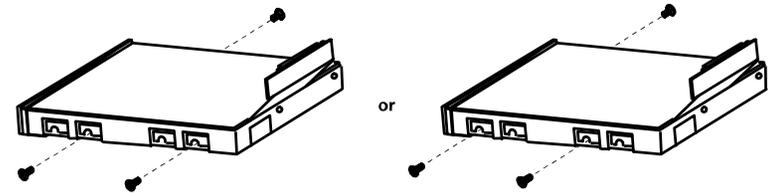

Figure 7-10. Removing the Hard Disk Drive Bracket Screws
4. REMOVE THREE SCREWS ON BOTH SIDES OF THE HARD DISK DRIVE BRACKET. (Fig 7-10)
3. SECURE WITH THREE SCREWS ON BOTH SIDE.(ref fig 7-10)